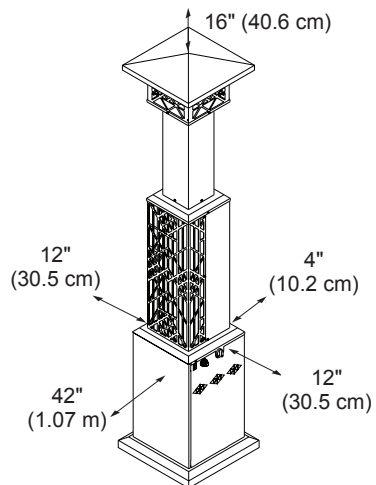

Figure 1 - Clearances from Combustibles
4. Minimum heater clearances from combustibles: Back 4" (10.2 cm), Sides 12" (30.5 cm); Front 42" (1.07 m); Top 16" (40.6 cm) (see Figure 1).